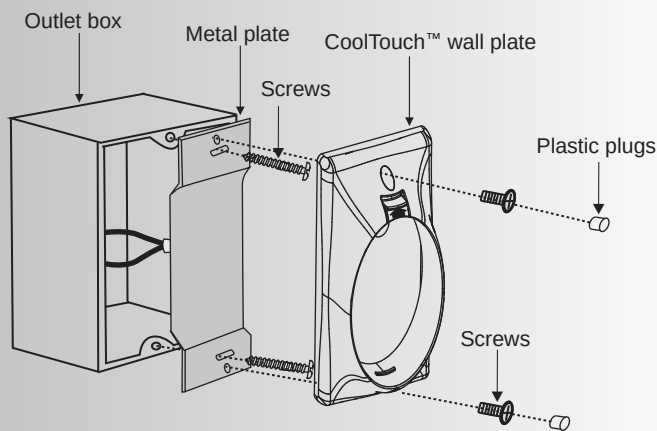

Fig. 31
Step 2. Install the metal plate and CoolTouch™ wall plate to the existing wall outlet box with 4 screws provided. Then place the two plastic plugs into the wall plate. (Fig. 31)